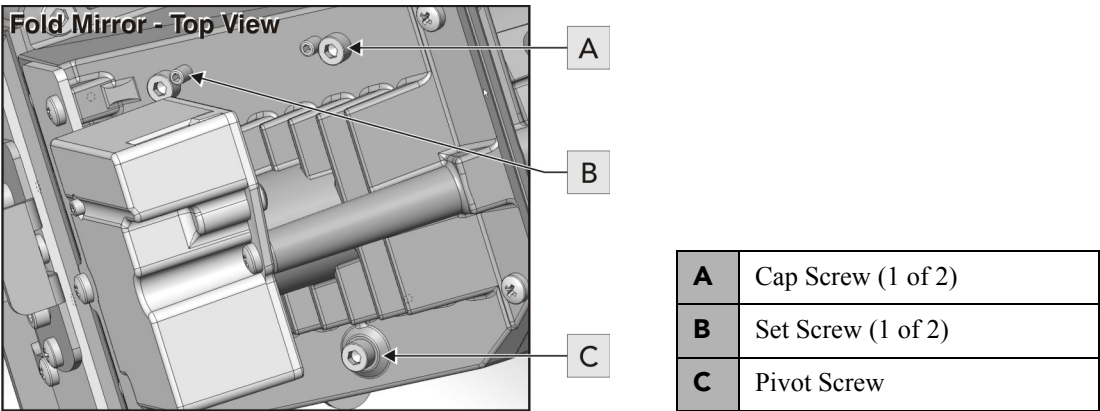

Figure 3-1 Fold Mirror Alignment
2. Unlock the two fold mirror set screws (**Figure 3-1/B**).
3. To make adjustments turn the pivot screw 90-180° (**Figure 3-1/C**).
4. Adjust both cap screws, which pivot the fold mirror back and forth (**Figure 3-1/A**).